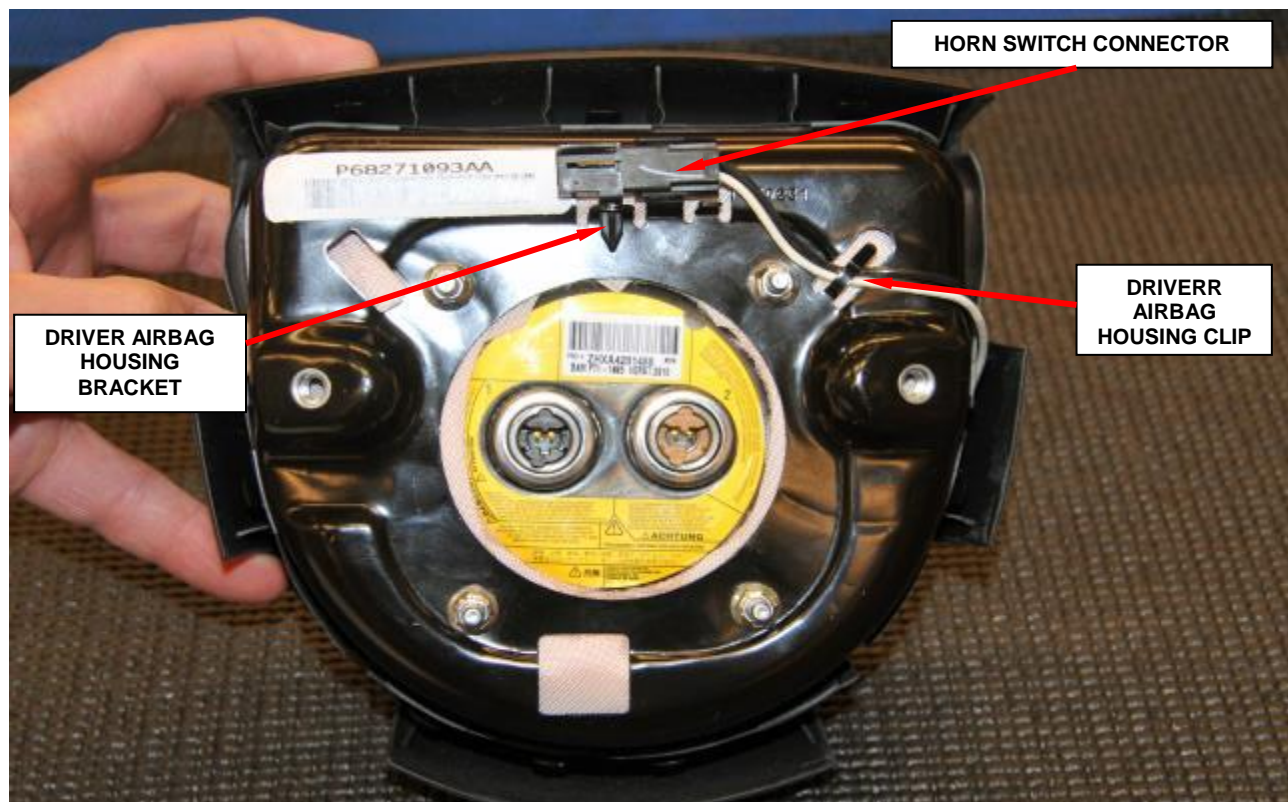

Figure 23 – Horn Switch Connector
20. Clip the horn switch connector to the driver airbag housing bracket (Figure 23).
21. Engage the horn switch wire harness pigtail to the driver airbag housing clip (Figure 23).
22. Driver airbag retrofit is complete (Figure 23).